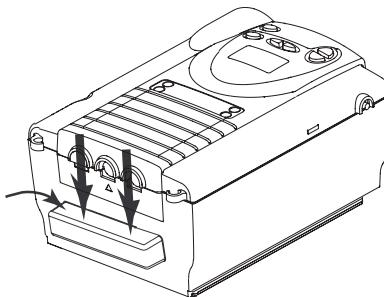

Figure 5–2 Attaching the Filter Cap
3. Attach the filter cap as shown in Figure 5–2. Position the cap so that the small opening on the cap is facing down. Insert the caps bottom tabs into the openings below the filter area. Snap the cap into place.